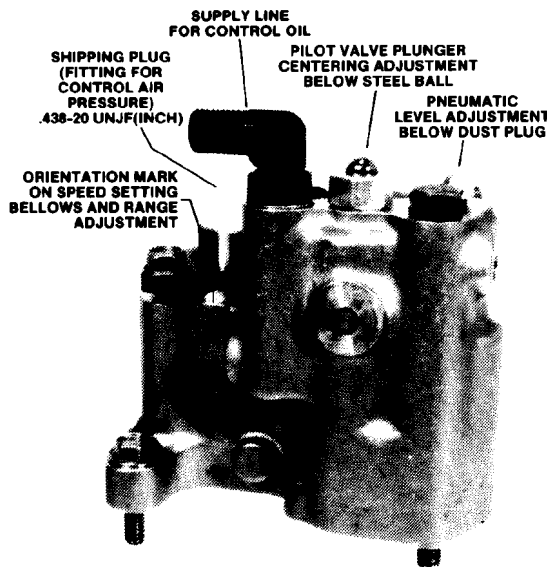

Figure 3-6. Pneumatic Speed-Setting Device
6. Install spring (47), spring seat (48), and retaining ring (49) on plunger (39). Make sure that the end of the spring clip (40A) is resting above pivot pin (41) on feedback lever (40).
9. Attach oil line (25) to the speed setting device with elbow (21).
10. Check the speed setting bellows range adjustment for proper mark orientation as shown in Figure 3-6.
Find the orientation mark on the top edge of the bellows. Turn this mark to a position as shown in Figure 3-6. This is approximately midrange. Turning this mark clockwise (cw) increases the amount of speed change for a given air pressure change. Turning the mark counterclockwise (ccw) decreases the amount of speed change for a given air pressure.
27. Apply 103 kPa (15 psi) air pressure to the pneumatic head. Turn level adjusting screw (37) cw so that governor is controlling at 38 degrees terminal shaft or full fuel position at desired high speed.
29. Follow this procedure to make the range adjustment: If the speed at 3 psi is too high, move the mark (see Figure 3-6) on the bellows seat cw when viewing the pneumatic housing as in Figure 3-6. If the speed is too low, move the mark on the bellows seat ccw.